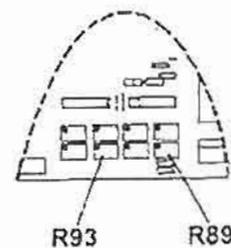

Figure 3-45. CUT power calibration.
(5) Set "CUT POWER" to 300 watts by depressing the up (Δ) keyboard switch until 300 shows in the center digital display.
(6) Adjust resistor R93 to approximately the midpoint and turn resistor R89 fully clockwise (fig 3-45).
(7) Depress the "CUT" pedal on the monopolar footswitch.
(8) Observe the wattmeter and adjust resistor R93 until the wattmeter indicates 300. Release the "CUT" pedal.
(9) Change the wattmeter load to 100 ohms.
(10) Turn resistor R89 counterclockwise to its midpoint.
(11) Depress the "CUT" pedal on the monopolar footswitch.
(12) Observe the wattmeter and adjust resistor R89 until the wattmeter indicates 260 ± 40 . Release the pedal.
(13) Depress the white "STDBY" keyboard switch to return the ES apparatus to the standby mode.
(14) Place a small dab of sealing compound on the resistor adjustment screws to lock them at their new settings.
(15) Remove the wattmeter.